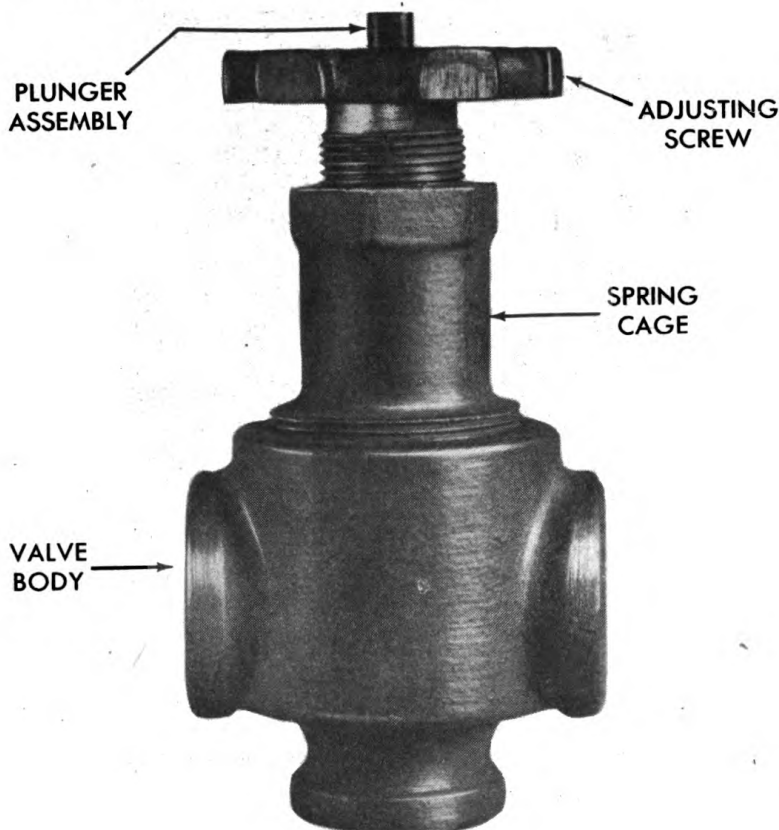

Figure 18—Relief Valve
d. **Setting Relief Valve.**—Relief valve (figure 18) setting is obtained by turning adjusting screw to right (clockwise) to increase pressure or to left (counterclockwise) to reduce pressure, while pump is operating at 100 to 120 R.P.M.